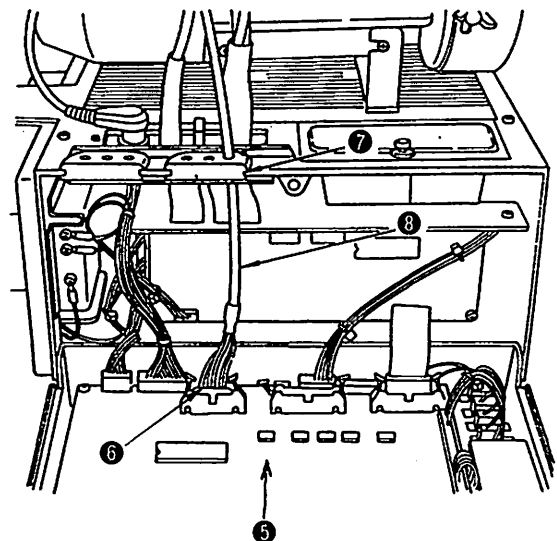

Fig. 4-23
- (2) Bring the cord to the PSC box position along the wiring route in Fig. 4-23.
- (3) Open the PSC box front cover. Connect the type of connector specified for the type of box being mounted (SC-20 J67 2P, SC-120 · SC-220 J60 16P, SC-320 J61 20P.)
- (4) Finally, connect the cord to the type of rubber bushing specified for the type of box being mounted. [so that the cord bundling band fits inside the rubber bushing (inside the box)], and close the front cover to complete the mounting.